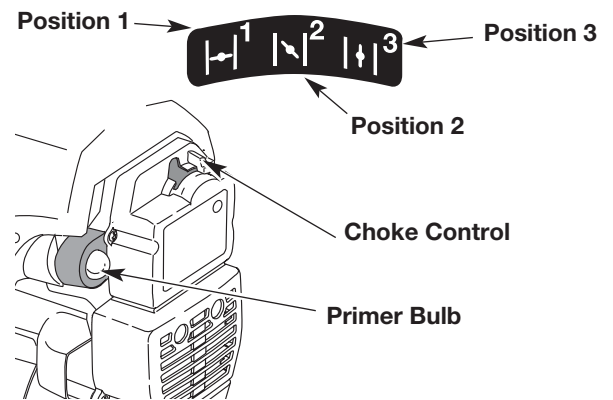

Fig. 11
2. Fully press and release the primer bulb 10 times, slowly. Some amount of **fuel should be visible in the primer bulb** and fuel lines (Fig. 11). If you can't see fuel in the bulb, press and release the bulb as many times as it takes before you can see fuel in it.
3. Place the choke lever in Position 1 (Fig. 11).